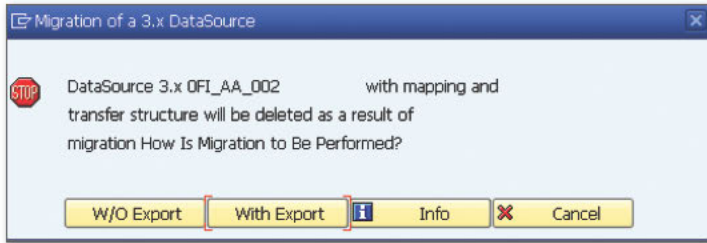

Figure 1 Prompt during the Migration of a 3.x DataSource
5. A new window appears (see Figure 1) where you can maintain settings specific to the DSO. You can maintain three types of parameters on this screen, PARAMETER FOR ACTIVATION, PARAMETER FOR SID GENER., and PARAMETER FOR ROLLBACK.
➤ *Figure 1 Maintenance of Runtime Parameters for DSO ZYCCD100*
Similarly from Figure 1, you may change the settings for PARAMETER FOR SID GENER. and PARAMETER FOR ROLLBACK that can influence the SID generation and rollback processes.
Also, you may make all of the preceding settings globally for all of the DSOs by choosing the CROSS-DATASTORE option shown earlier in Figure 1. In this case, all of the settings described can be made globally and be applied to all DSOs.
Typically, when performing a migration of a DataSource, you would go to the relevant transfer rules and right-click on the DataSource. Choose the option **MIGRATE** and the screen shown in Figure 1 will be displayed.
1. Log in to the SAP NetWeaver BW system and execute Transaction RSPC. Right-click on the LOCAL PROCESS CHAIN process type, and choose CREATE MESSAGE as shown in Figure 1.
« Figure 1 Creating a Message on the Local Process Type